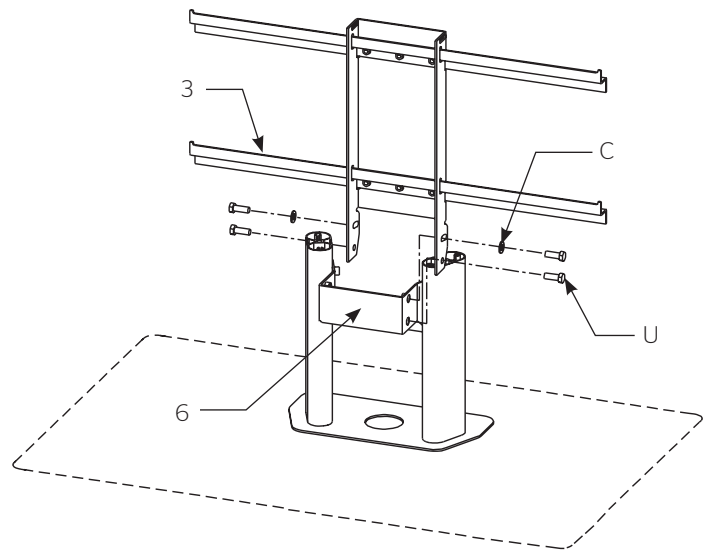

Figure 4
5. Install Flat Panel Mount Assembly onto the Mount Support Bracket. See Figure 4. Tighten all fasteners.